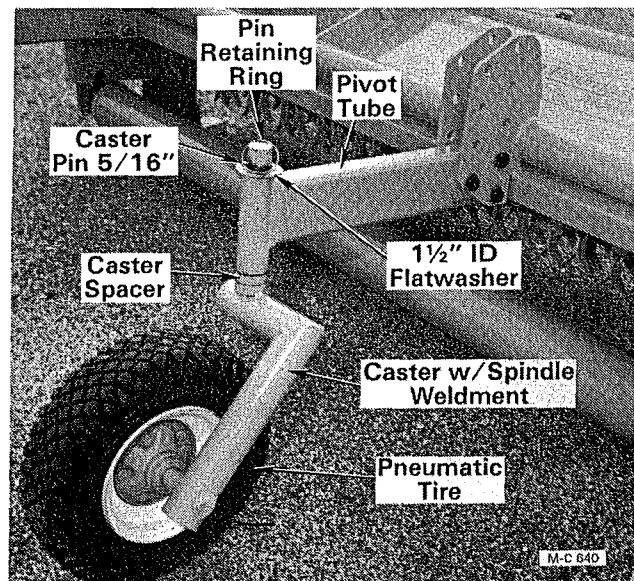

Figure 10 - $9\frac{3}{8}$ " Cutting Height Position Shown
3. Bolt the caster wheel pivot tubes to the mower body in the position desired with three $\frac{5}{8}$ -11 x $4\frac{1}{4}$ " capscrews (grade 5), lockwashers and hex nuts, see Figure 10.